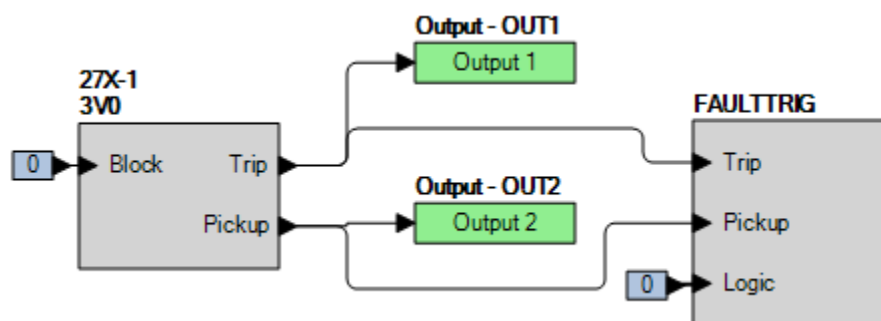

Figure 58-1. BESTlogic*Plus* Settings (3V0 Mode)
Step 2: Use BESTCOMS*Plus* to configure the BESTlogic*Plus* programmable logic shown in Figure 58-1.
- Step 4: Prepare to monitor the 27X-1 function operation. Operation can be verified by monitoring OUT2 (see Figure 58-1).